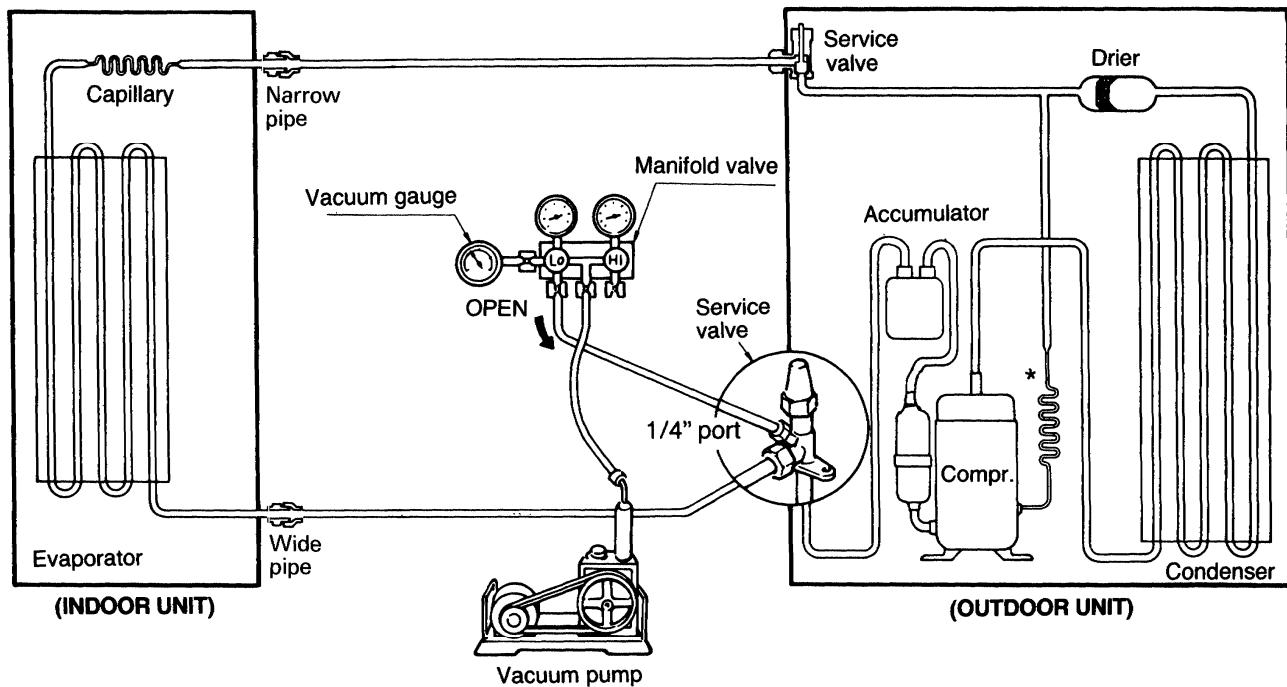

Fig. 9
- b) If no gasleakage is confirmed, connect both vacuum pump and vacuum gauge to service valve through 1/4" port with a flare nut. See Fig. 9.